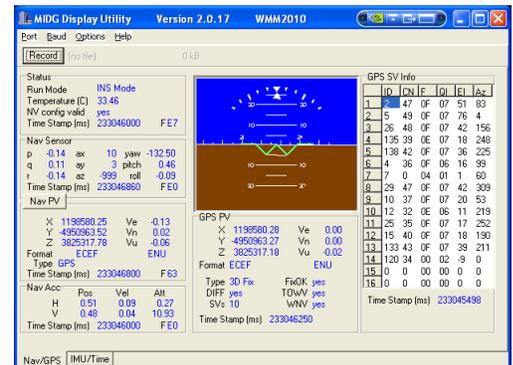

Figure 2. Nav/GPS screen
4. NAV/GPS Screen. The NAV/GPS screen displays the GPS and navigational data from the MIDG Series INS/GPS. This data is comprised of several parts. Each part will be detailed starting from the top-left corner of the screen (Figure 2).